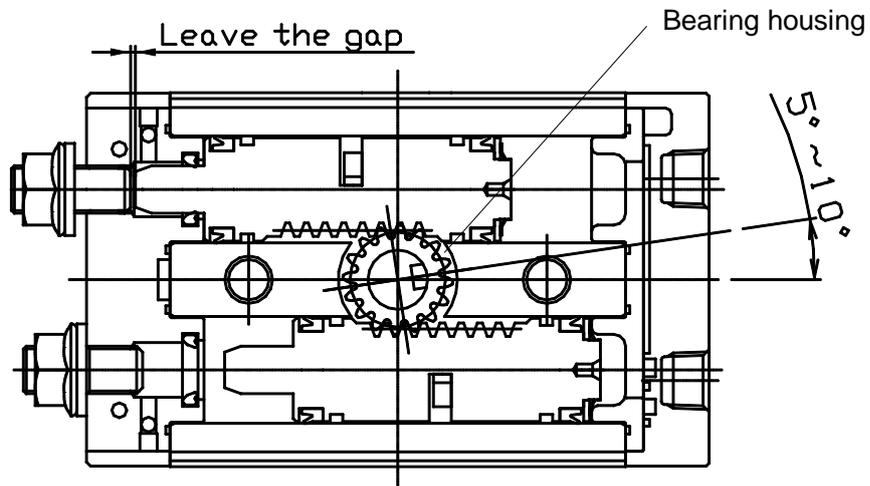

Fig.24
- (3) Mount the cover and the end cover, and push the piston Assy and the cover until they touch the end cover as in Fig.24 Adjust the hexagon socket head set screw (adjust bolt) so that the screw does not contact with the piston Assy.